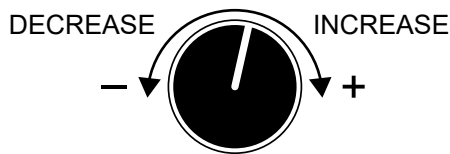

Figure 10. Voltage Regulator
7. If the voltage is not within the specified tolerance, use the **voltage regulator** (Figure 10) to increase or decrease the desired voltage.